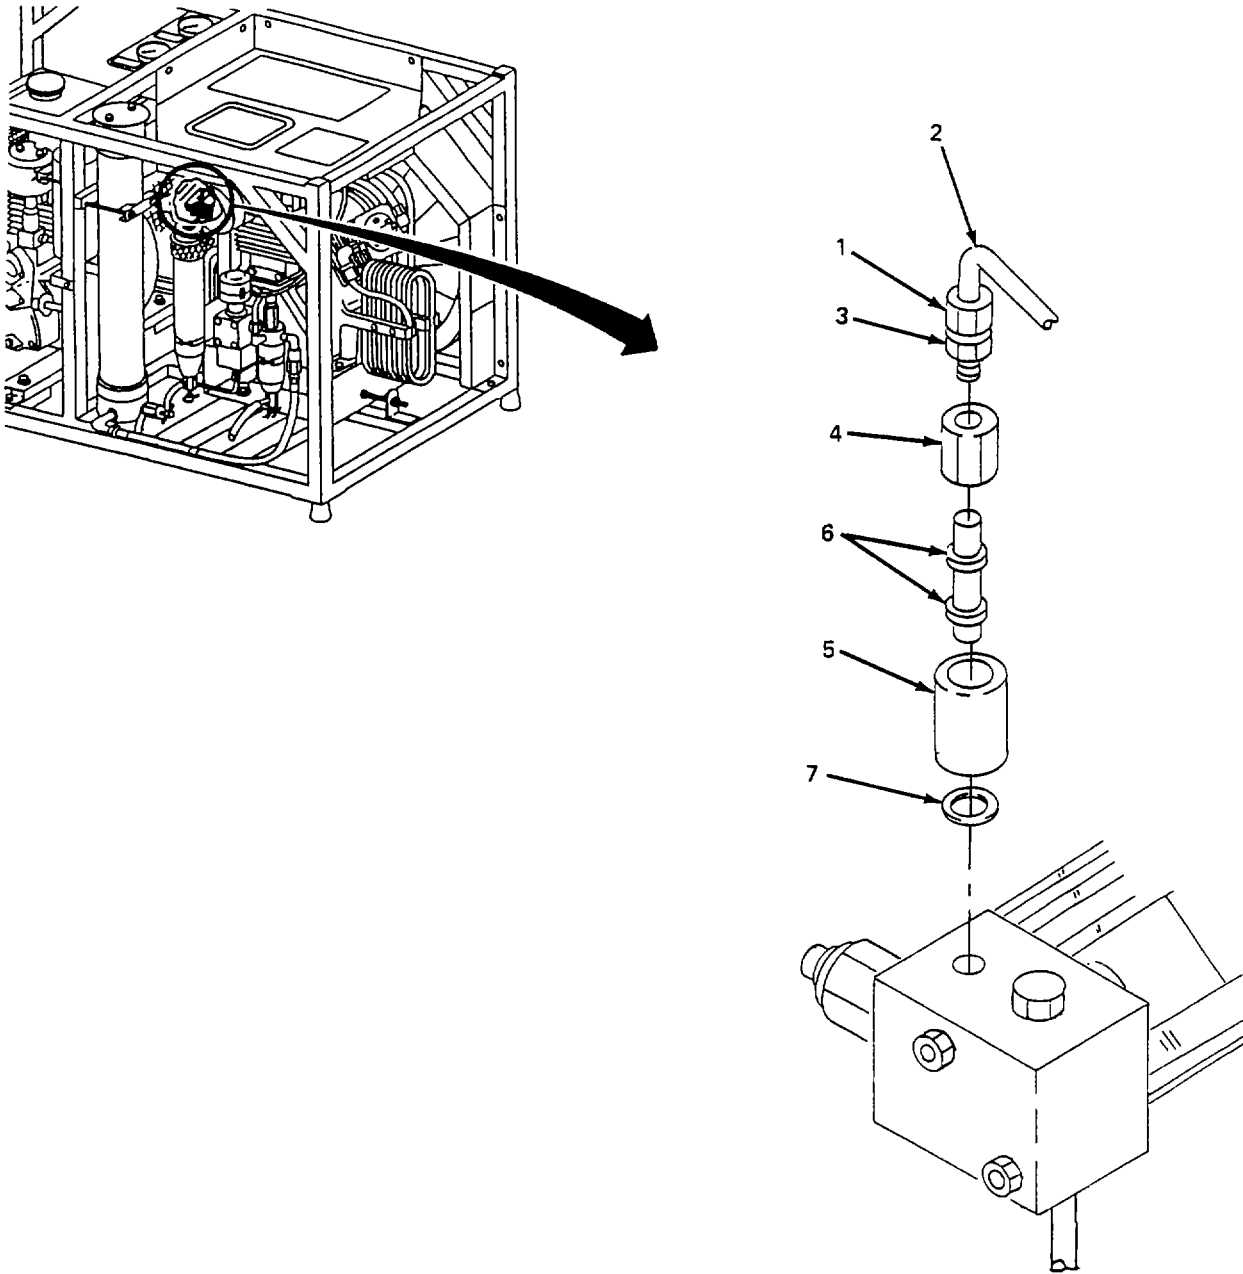

Figure 5-27. Sight Glass, Replace.
(2) Replace sightglass. (figure 5-27)
- (a) Loosen two connector nuts (1) and move line (2) out of way.
- (b) Remove coupling (3).
- (c) Remove fitting (4), sight glass (5), two preformed packings (6), and washer (7). Discard preformed packing (6).
- (d) Install washer (7), two new preformed packings (6), sight glass (5), and fitting (4).
- (e) Install coupling (3).
- (f) Install line (2) and tighten two connector nuts (1).